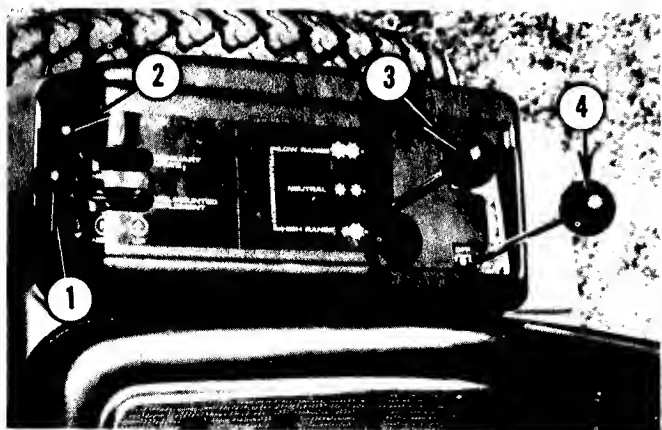

**FIG. 3.9--BRAKE ENGAGING SLEEVE CLEARANCE ADJUSTMENT**
6. After making the selector link adjustment, if the adjuster screw does not appear to hit squarely against the selector link, it will be necessary to replace the adjuster screw with a 5/16x1-1/4 hex head bolt (Figure 3.9). Loosen the jam nut on the adjuster screw and remove the screw. Install the hex head bolt and jam nut with the head of the bolt toward the selector link to increase the area of contact between the adjustment bolt and the selector link. Make adjustment as previously described and lock jam nut.
7. Place the parking brake lever into the first speed notch and tighten the nut on the end of the brake rod until there is 1/8 inch clearance between the nut on the rod and the brake engaging sleeve of the linkage (Figure 3.9). Install and lock a jam nut against the brake rod nut.